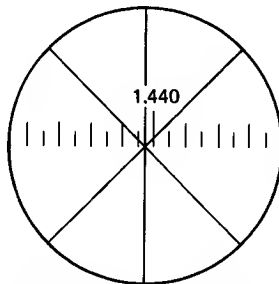

Fig. 105 A refractive index of 1.4398.
7. Press and hold the scale/sample field switch. The refractive index scale should appear (Fig. 105). Read the uppermost scale, the refractive index, to four decimal places. (If your model has two fields, with the refractive index *always* visible, just read it.)